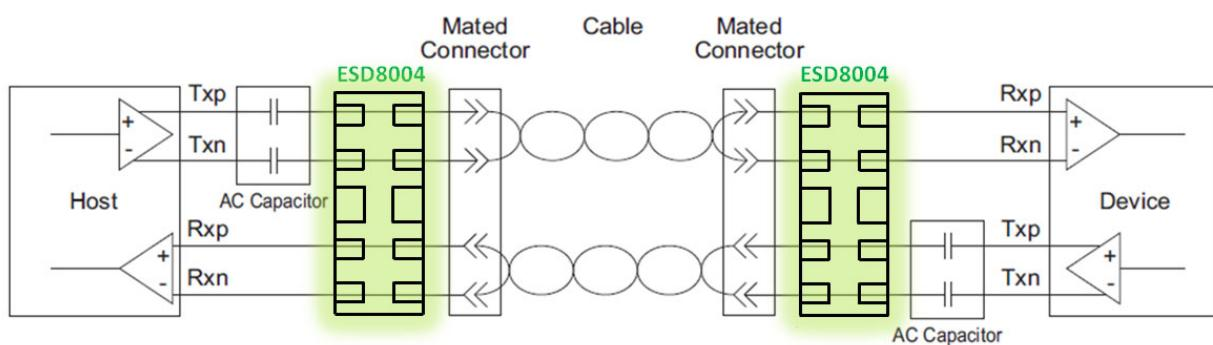

Figure 16. USB 3.0/3.1 Connection Diagram
- ◆ In USB 3.0/3.1 applications, the ESD protection device should be placed between the AC coupling capacitors and the I/O connector on the TX differential lanes as shown in Figure 16. In this configuration, no DC current can flow through the ESD protection device preventing any potential